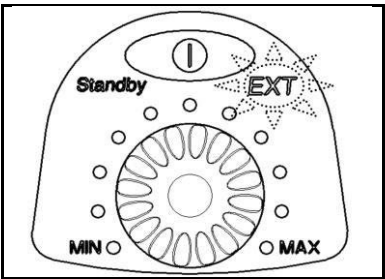

Fig. 19: "EXT" indicator
- ➔ If external actuation is switched on, this is indicated on the pump by the illuminated "EXT" symbol. See Fig. 19